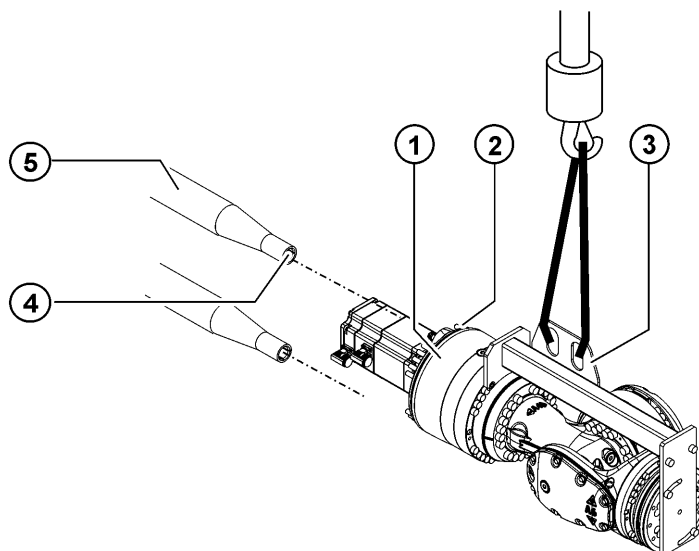

Fig. 11-28: Installing the in-line wrist
1. Remove all protective coatings and oil from new in-line wrist, if applicable. Clean the tothing on the connecting shafts and on the in-line wrist before installation and apply a thin but continuous coat of Microlube GL 261 grease (>>> Fig. 11-28).